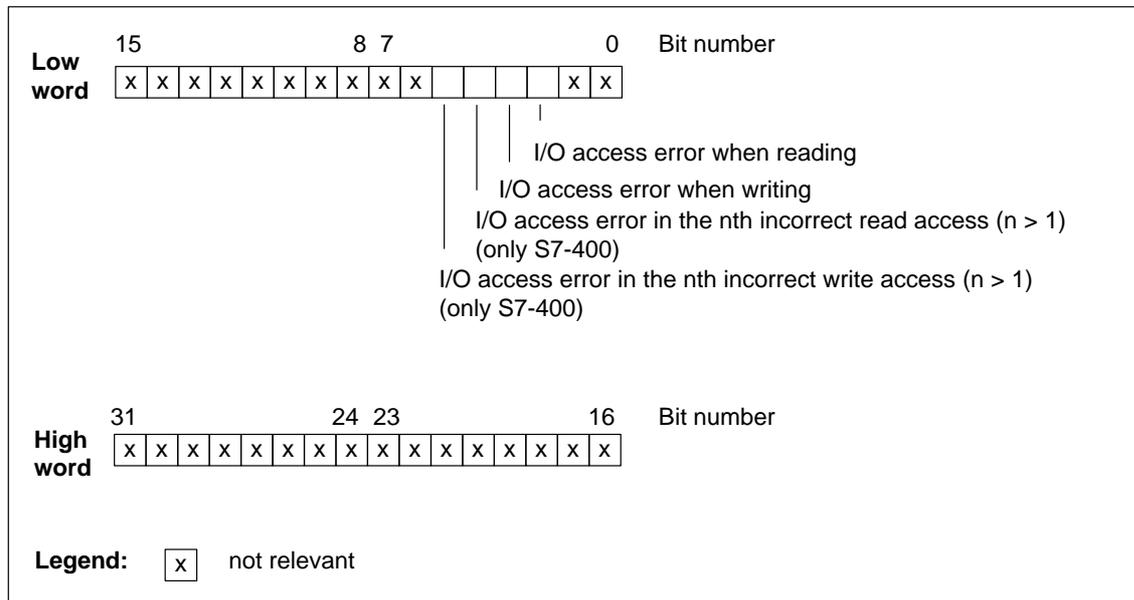

Figure 10-3 Access Error Filter
**Access Error Filter** Figure 10-3 shows the bit pattern of the error filter for access errors. The error filter for access errors is in the parameters ACCFLT\_... Access errors are explained in Table 10-3.
In Figure 10-3, x means ...